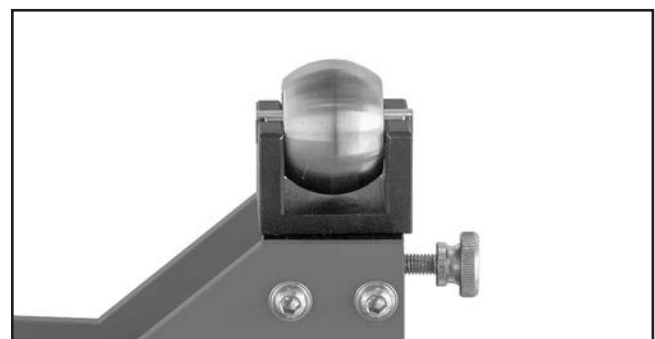

Figure 19. Lower wheel saddle rotated 90°.
2. Rotate lower wheel saddle 90°, as shown in **Figure 19**.